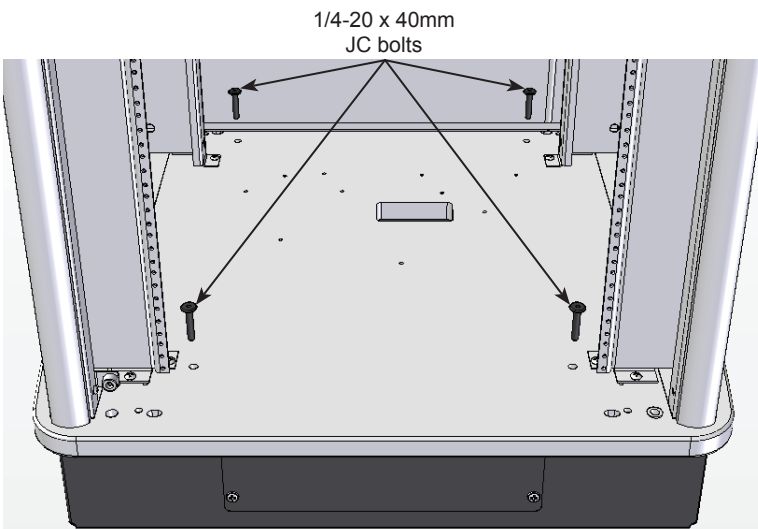

Figure 5
1. If your Flat panel display cart is equipped with a toe kick, and you wish to attach it to the floor, the toe-kick will need to be detached from the cart. To detach, open the doors and remove the (4) 1/4-20 x 40mm JC bolts (one on each corner) from inside the cart. **Figure 5.** (Save these fasteners).